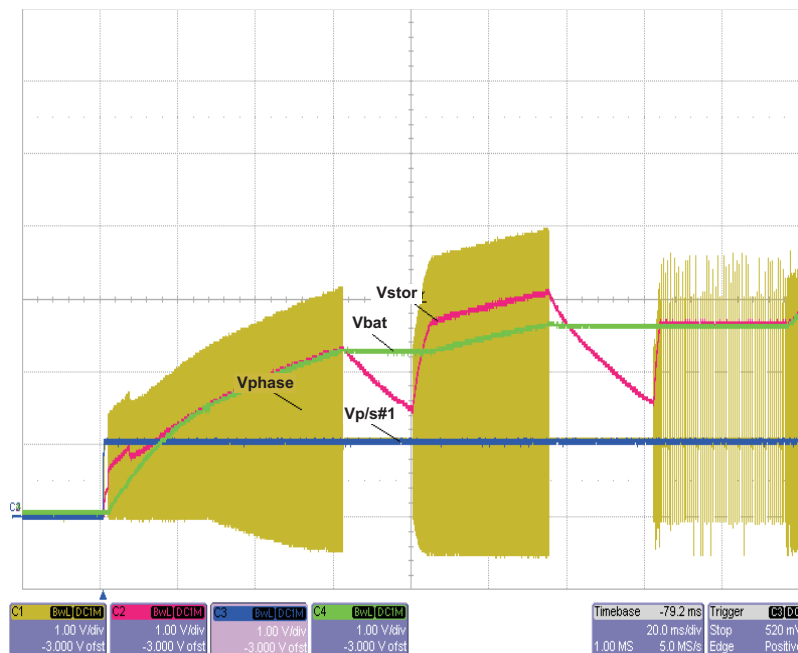

Figure 2. Startup with no Battery and 10k Load
1. Connect a 20 Ω resistor to J1-1, 10k resistor between J6-1 and J6-3 and place shunt on JP1-DIV. Connect meters and scope probes to monitor CH1 $\rightarrow$ CH4: V_{PHASE} (TP16), V_{STOR} , $V_{\text{P/S \#1}}$, V_{BAT} . Set scope to 1V per division for each channel and 20ms/div, single sequence trigger on $V_{\text{P/S\#1}}$, see Figure 2.